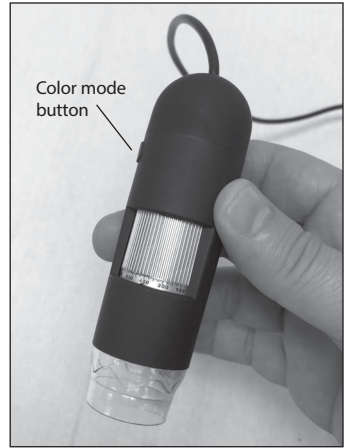

Figure 11. *The color mode button, used in AmCap. Click through different color settings while watching the preview screen.*
7. If the color palette is not correct, press the small black button located on the housing of the microscope, above the zoom ring (**Figure 11**). In AmCap, this button will cycle through different color palettes, including standard RGB color, and black and white.